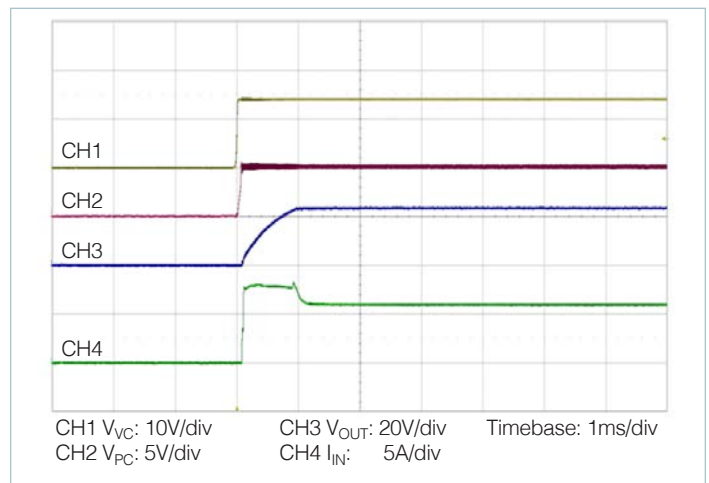

Figure 14 — Start up from application of VC;  $V_{IN}$  pre-applied  $C_{OUT} = 375\mu\text{F}$
- **Stand-alone operation (VC applied after  $V_{IN}$ ):** In this case the VTM output will begin to rise upon the application of the VC voltage (See Figure 14). The Adaptive Soft-Start Circuit may vary the output rate of rise in order to limit the inrush current to its maximum level. When starting into high capacitance or a short, the output current will be limited for a maximum of 1200 $\mu$ s. After this period, the Adaptive Soft-Start Circuit will time out and the VTM module may shut down. No restart will be attempted until VC is re-applied or PC is toggled. The maximum output capacitance is limited to 375 $\mu$ F in this mode of operation to ensure a successful start.